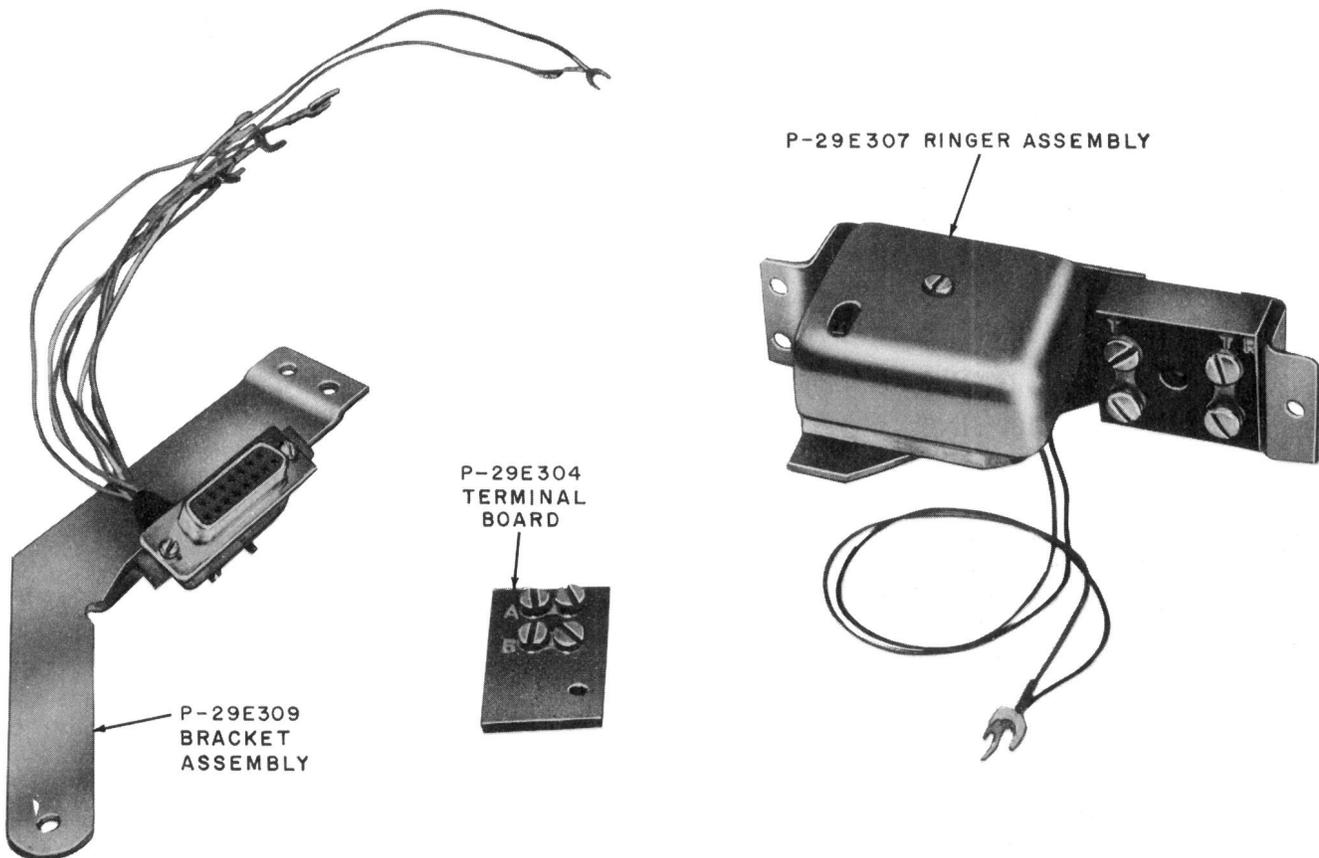

Fig. 1 — D-180120 Kit For Modification of Blackplate Assembly
2.01 The D-180120 kit to be installed in the field consists of P-29E307 ringer assembly, P-29E309 bracket assembly, and P-29E304 terminal board (Fig. 1). ←